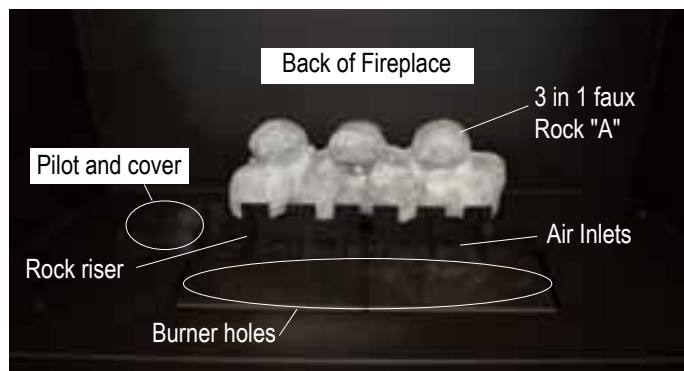

Figure 29a. Placement 3 in 1 rear faux ceramic rock "A".
2. Install Rear faux "A" ceramic 3 in 1 Rock as shown in **Figure 29a**.